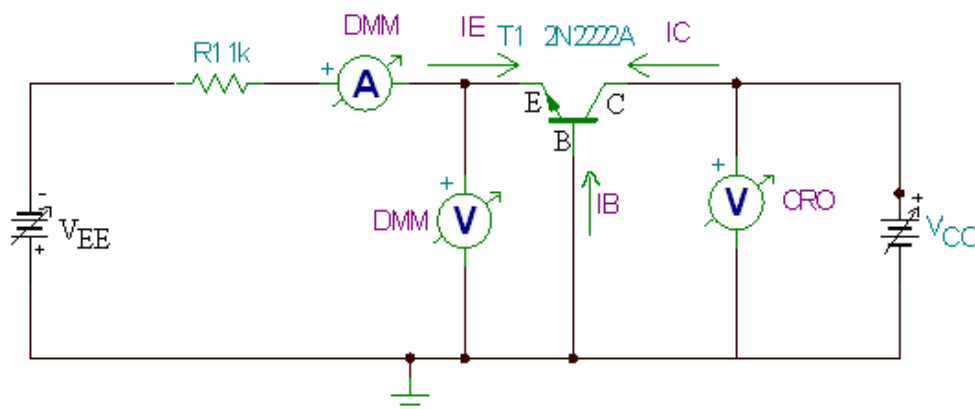

Fig 5.1 Circuit for Common Base Input Characteristics
4. Connect the circuit in fig 5.1